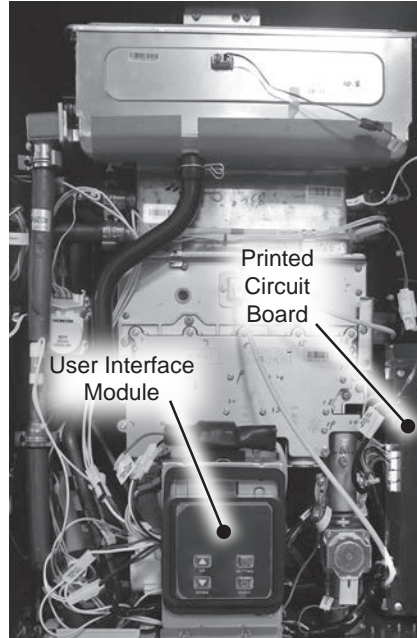

Figure 13 - Locating UIM
- 4 Locate the User Interface Module (UIM). See Figure 13.